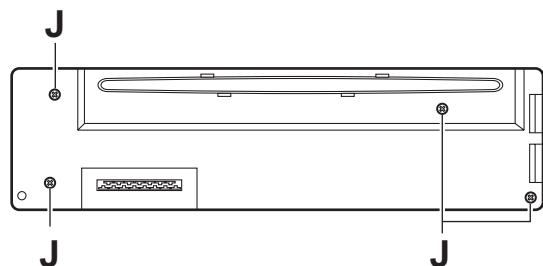

Fig.8
(See Figs.8 to 10)
- (1) Remove the four screws **J** on the back side of the front panel assembly. (See Fig.8.)